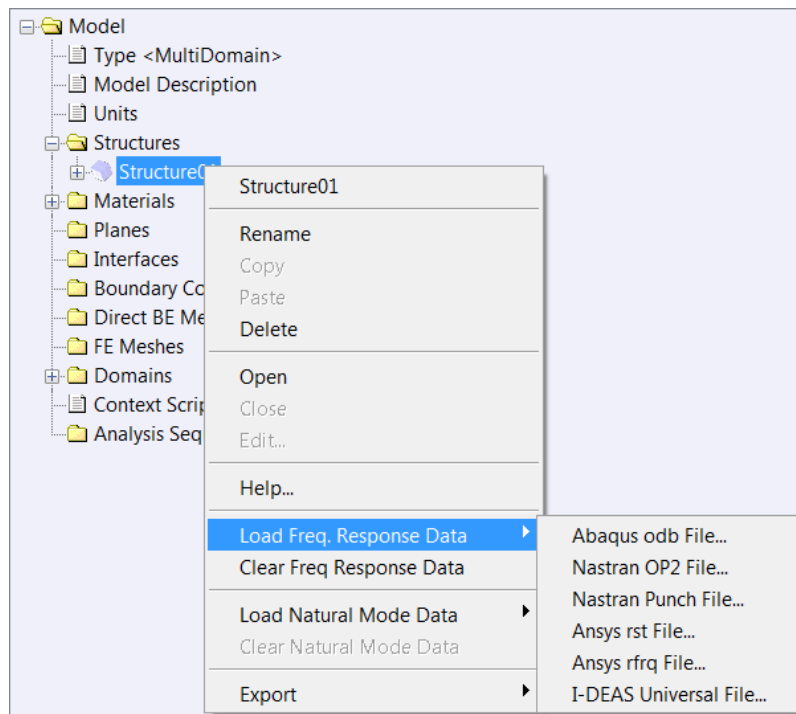
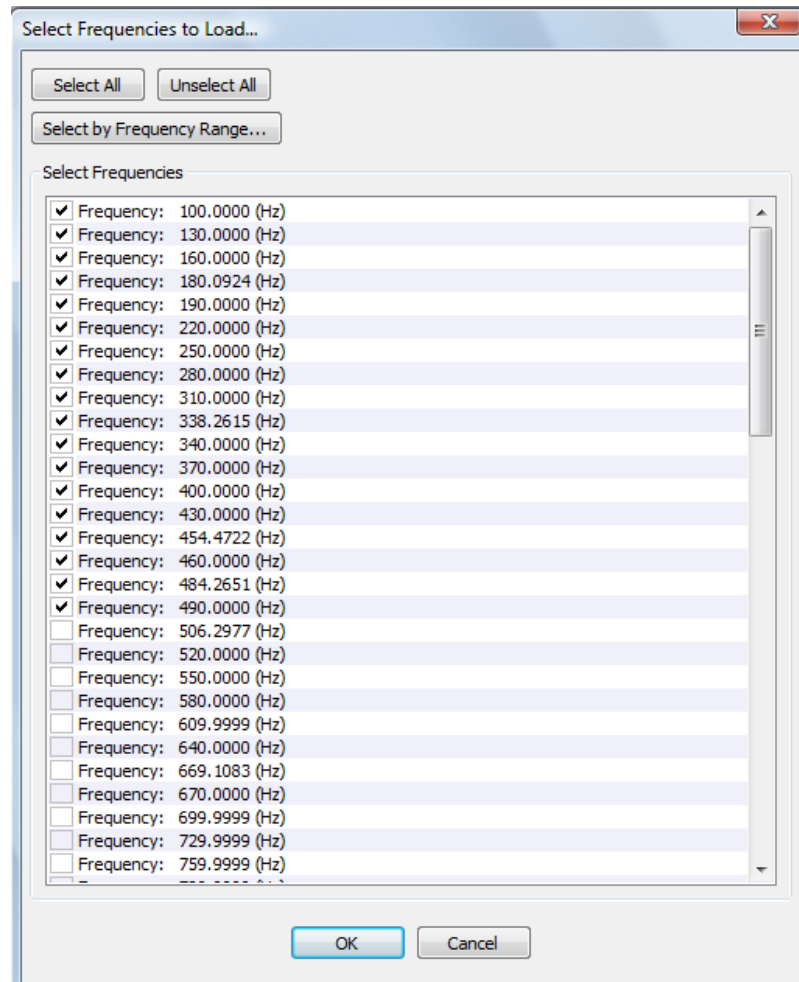

Figure 5.5 Loading frequency response data into *Coustyx* model.
Figure 5.6 Select frequencies to load dialog box.
- To load frequency response data from FE analysis: Click on the imported structure *<Structure Mesh Name>*, right-click on it and select **Load Freq Response Data** → **Nastran Punch File** (see Figure 5.5). The other supported data formats are **Abaqus odb File**, **Nastran OP2 File**, **Ansys rst File**, **Ansys rfrq File**, **I-DEAS Universal File**. Select desired frequencies to load. Only these frequencies from the data read are loaded into the model. The **Natural Mode Data** could be loaded in a similar fashion.
Right-click on *<Structure Mesh Name>* and select the frequency response data from any of the file format options through **Load Freq. Response Data** (refer to Figure 5.5). If the data is read successfully, a new dialog box with a list of frequencies available in the data appears. See Figure 5.6. The user can select what frequencies to load into the model. Use **Select All**, **Unselect All**, or **Select by Frequency Range...** buttons to choose the frequencies of interest. To clear the data already uploaded select **Clear Freq. Response Data** on the right-click menu. Run forced response FE analysis on the structure in the desired frequency range to generate the frequency response data. The frequency response data (or structure velocity) could later be used as a boundary excitation on the BE model (which is generated from the structure FE mesh). More details on how to define and apply boundary conditions in *Coustyx* are provided in Chapter 6. The following are the supported frequency response data formats.